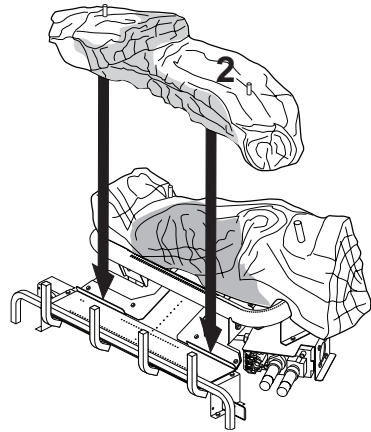

Figure 24 - Installing Log #2
2. Place middle log in front of U-burner and against the edges of plate as shown in Figure 24.